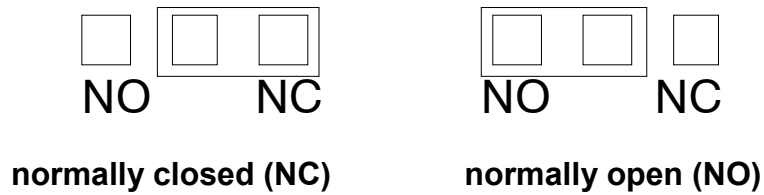

Figure 6: Auxiliary connections
You can define each relay as Normally Open (NO) or Normally Closed (NC) by setting the jumpers as illustrated in Figure 6.